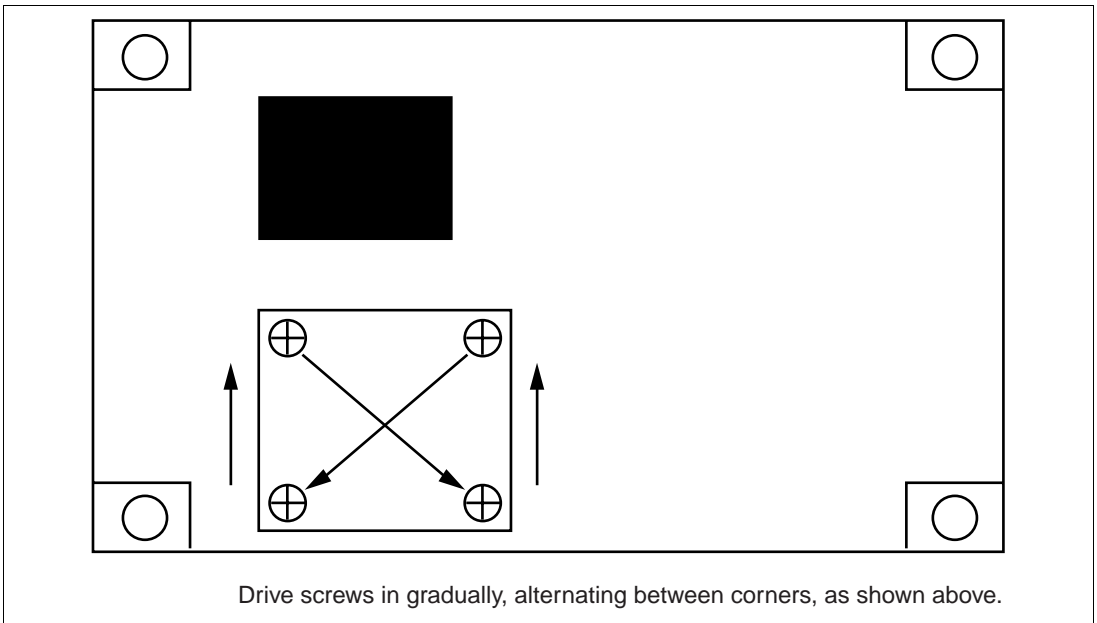

Figure C.2 Order of Tightening the Screws (Top View of the HS7750REBH81H/HS7751REBH81H Board)
- (c) Use four screws (M2 × 10 mm) to fix the IC socket on the HS7750REBH81H/HS7751REBH81H board to the IC socket on the user system. Drive each of the four screws gradually, tightening each diagonally opposite pair in turn as shown. Do not concentrate pressure on a single screw as this will cause a contact failure or otherwise degraded performance. Hold the IC socket in place by hand to prevent the application of pressure due to the force of rotation (see figure C.2, Order of Tightening the Screws).